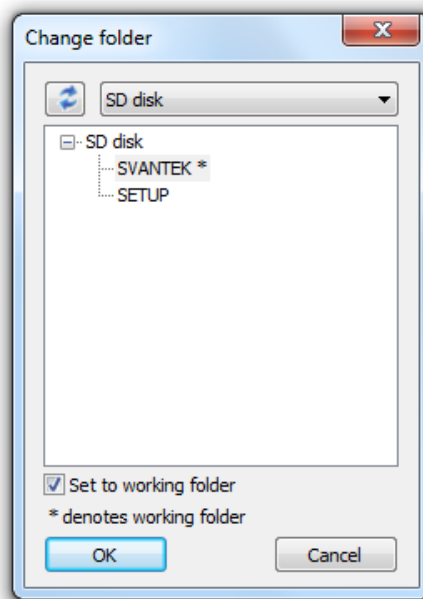

Fig. 3-5. Dialog box allowing to select the directory in the Svantek instrument’s memory from which files are displayed in the Download panel
- *Change dir* – opens the *Change folder* dialog box, allowing to select a directory in the Svantek instrument’s memory for displayed files in the Download panel (Fig. 3-5).